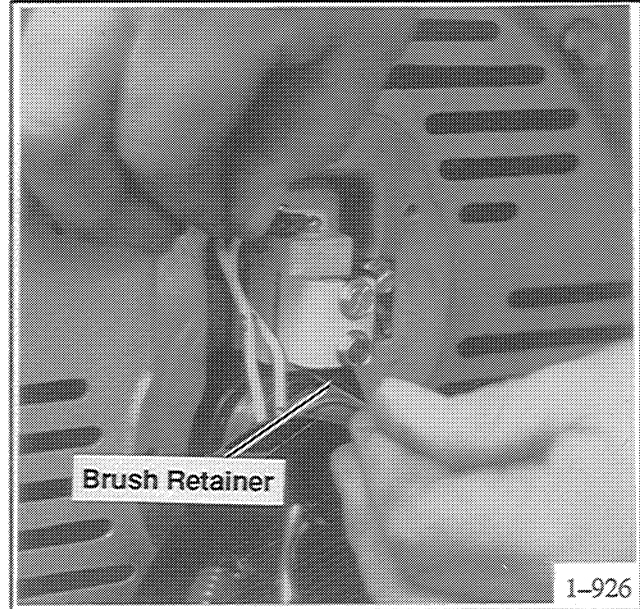

Figure 8-12. Installing Brush Retainer
16. Raise brushes in holder by pulling leads outward and install brush retainer (length of stiff wire or paper clip will also work). See Figure 8-12.